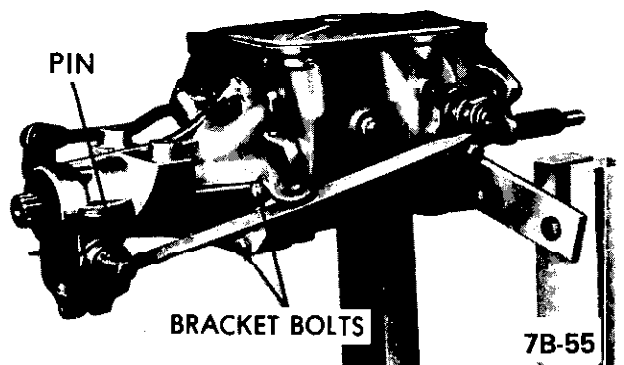

Figure 7B-21 Pin and Bracket Securing Selector Lever to Intermediate Shaft and Rear Bearing Retainer
2. Remove the two (2) bolts and spring washers from the transmission case extension housing which secure selector lever bracket. See Figure 7B-2 1.